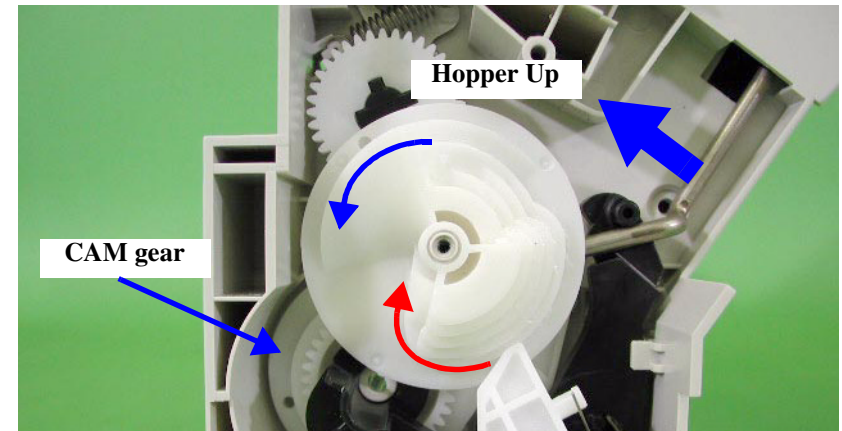
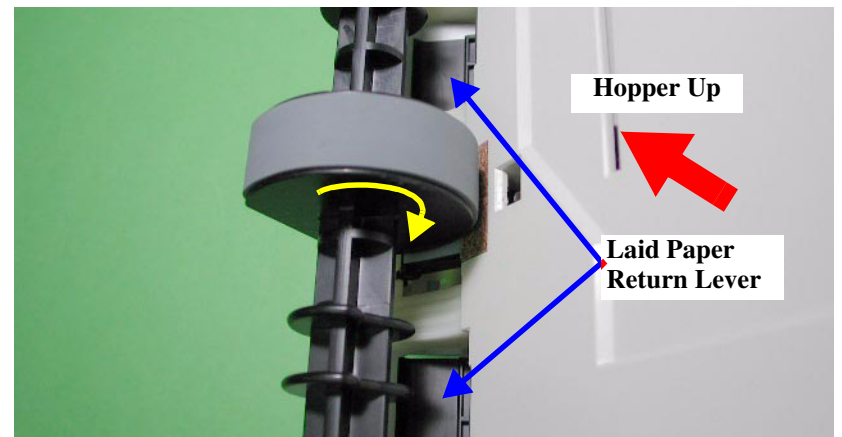

Figure 2-16. Silence Cam mechanism (3)
Figure 2-17. Silence Cam mechanism (4)
5. Once the printing data is input or load/eject switch is pressed down, the silence cam will rotate to counterclockwise direction in Figure 2-16 to bring the hopper to the hopper-state. In this sequence, when the top of the "slow down nail" reaches at top of the red row in Figure 2-16, hopper has already been located in hopping state, and a first paper has already been loaded to the printer internal.
6. Figure 2-17 shows the hopper condition when the top of "slow down nail" locates at top of red row in Figure 2-16. At this time, any clatter noise will not be occurred caused by the shape of silence cam.